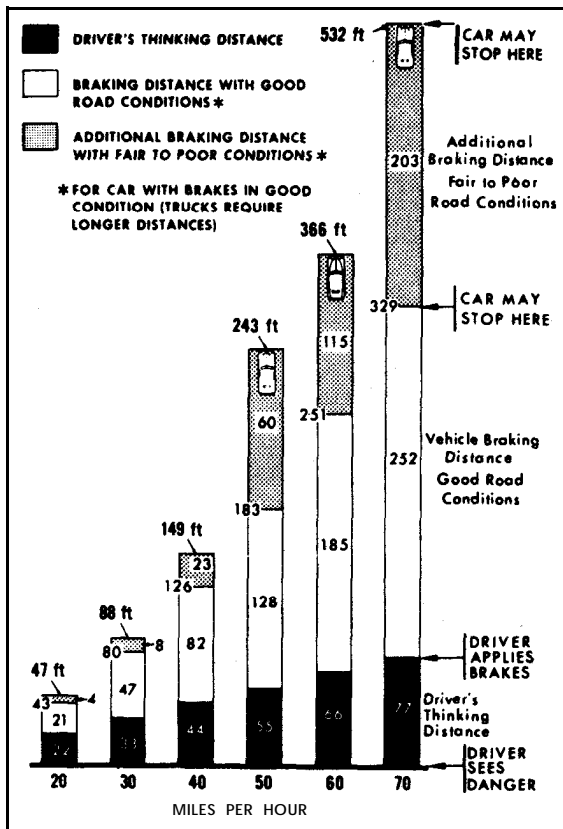

FIGURE 20
9.13 STOPPING DISTANCES. As the speed of a vehicle increases, the distance required to stop increases at a much greater proportion. For example: a car traveling at 20 mph may stop within 43 to 47 feet, according to road conditions. But, at 60 mph, it will not stop in less than 251 feet, and may require up to 366 feet. Although the speed was tripled, the stopping distance, under ideal conditions, increased at least 5 times (Figure 20).